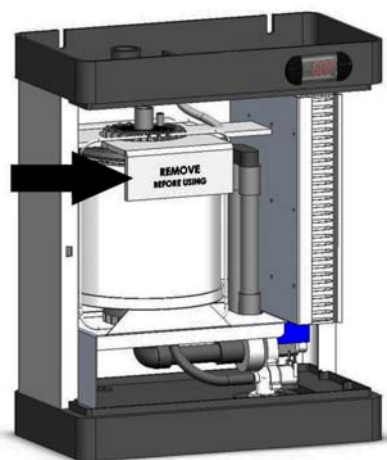

Fig. 8
5. Remove the protective cardboard above the cylinder (fig. 8).